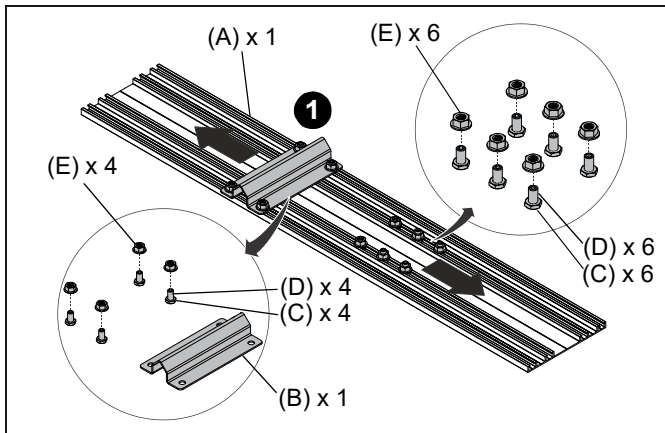

Figure 1
1. Before installation, remove the tube clamp (B), ten M8 nuts (C), ten M8 x 20mm screws (D), and ten M8 flange nuts (E) from the upright extrusion (A) and set aside. (See Figure 1)